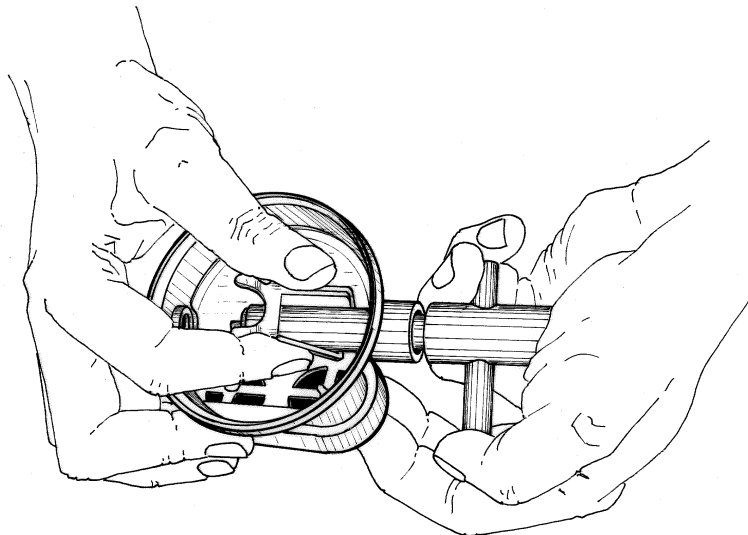

FIG.5
9. Insert the ends of the demand lever (9) one at a time in the square holes on the sides of the 2nd stage poppet seat holder and release the multipurpose tool (B-34). (Fig. 5)